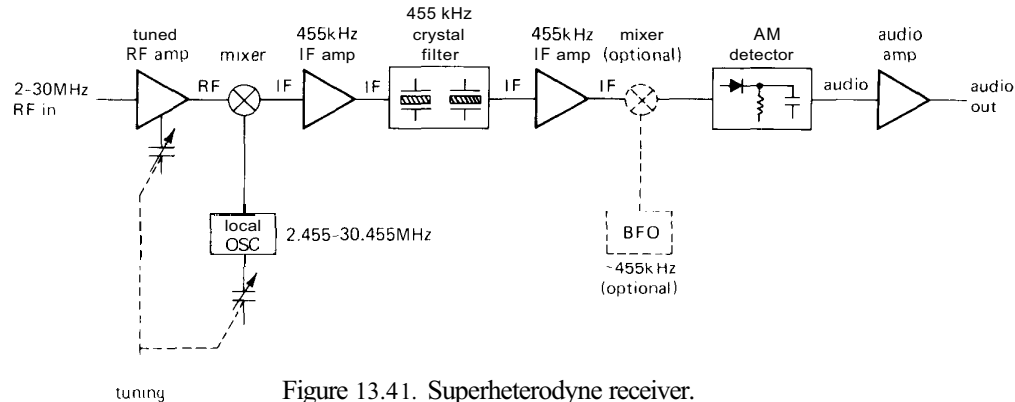

Figure 13.41. Superheterodyne receiver.
A nice solution to these problems is the superheterodyne ("superhet") receiver shown in Figure 13.41. The incoming signal is amplified with a single stage of tuned RF amplification, then mixed with an adjustable local oscillator (LO) to produce a signal at a fixed intermediate frequency (IF), in this case 455kHz. From then on the receiver consists of a set of fixed-tuned IF amplifiers, including selective elements such as crystal or mechanical filters, finally terminating in a detector and audio amplifier. Changing the LO frequency tunes the receiver, since a different input frequency then gets mixed to the IF **passband** frequency. The input RF amplifier must be gang-tuned with the LO, but the alignment is not critical. Its purposes are (a) to